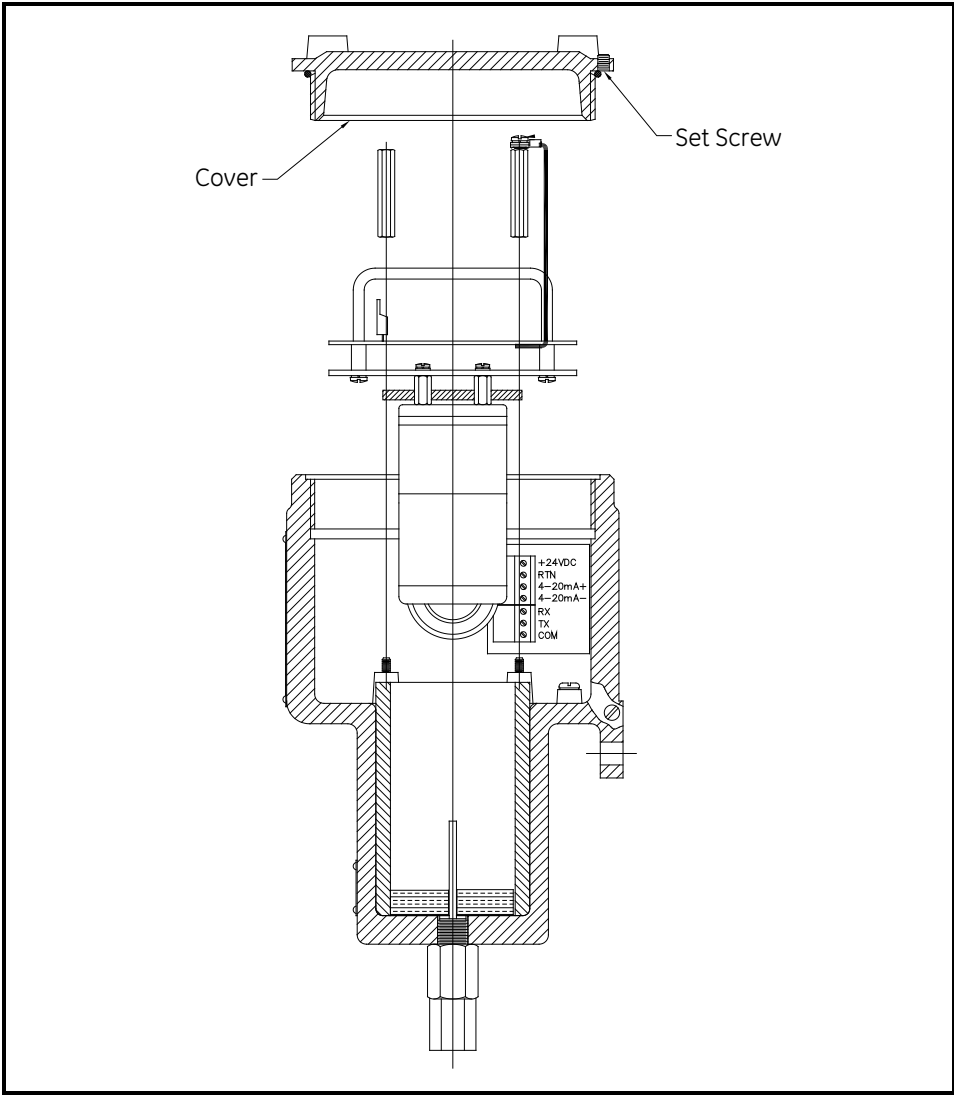

Figure 53: Transmitter Cover and Set Screw
- 2. Loosen the set screw that locks the XMTC cover in place, and unscrew the cover (see *Figure 53* below).